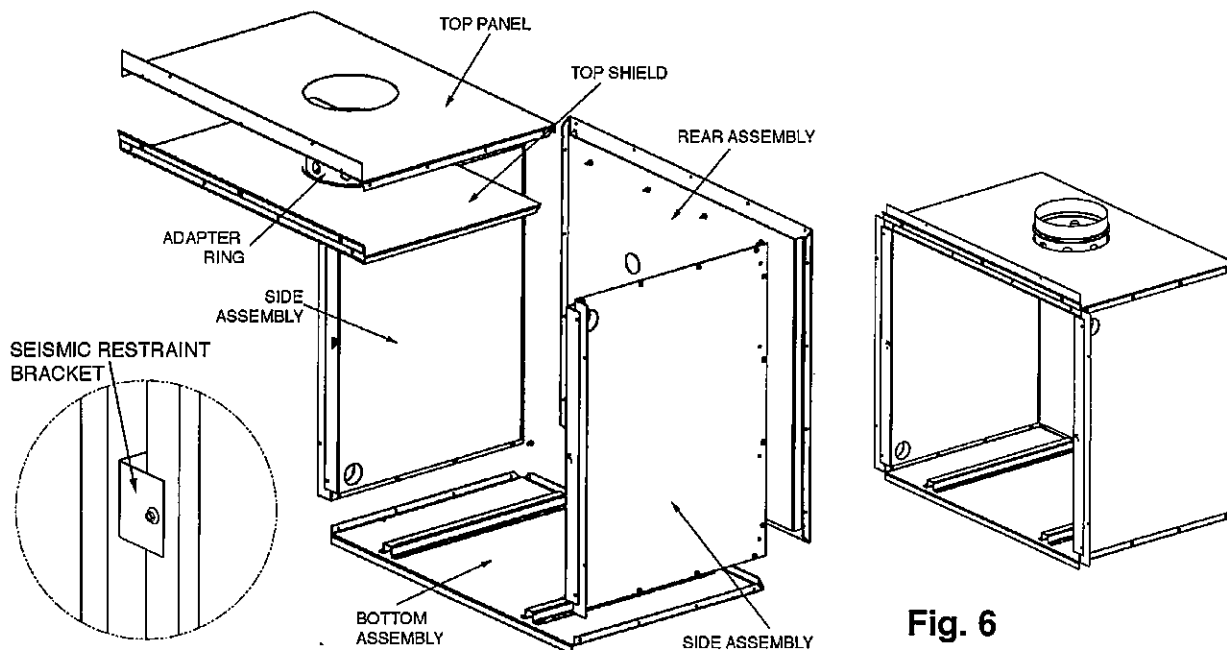

Fig. 6
9. Assemble the base, sides, back and top panel of the shielding box (see Fig. 6). Slide the assembly into place in the enclosure. After centralising, fix the flange of the top panel of the shielding box through the cladding into the metal angle support, and fix the side flanges (through the cladding) into the wooden trimmers. Pass the 200mm adapter ring (crimped end up) upwards into the hole in the top panel of the shielding box, and slide the top shield in under it so that the ring sits on top of the top shield and the top shield rests on the top edges of the inner heat shields of the cabinet. Make sure the back flange of the top shield hooks over the shield on the rear panel. Fix the top shield to the front flange of the top panel with 3 screws.